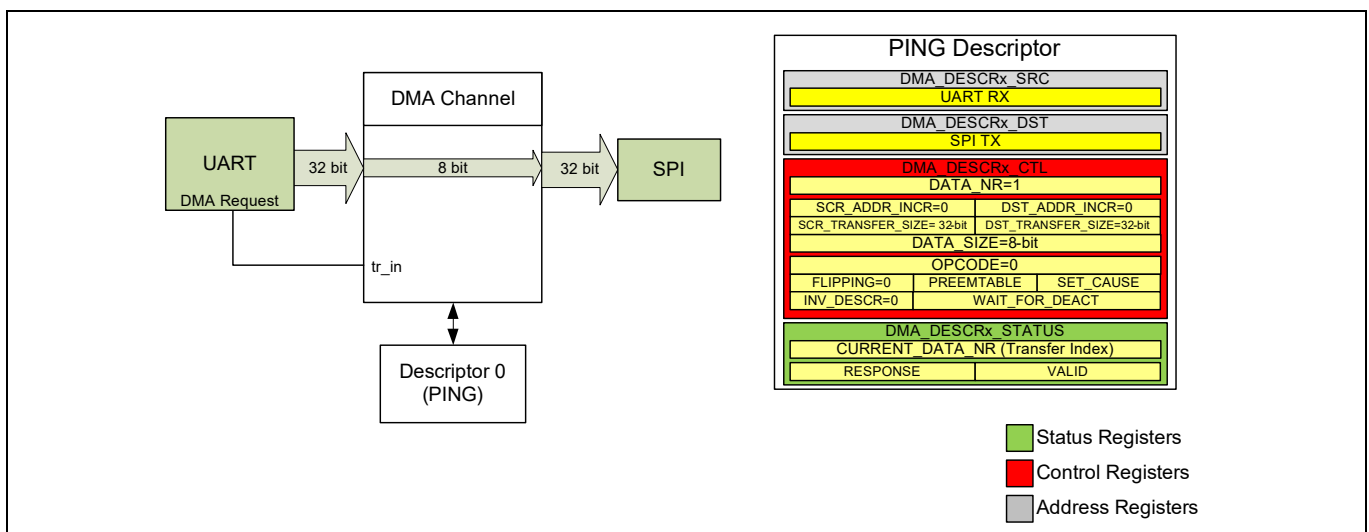

Figure 6-5. OPCODE 0: Simple DMA Transfer from Peripheral to Peripheral
Figure 6-5 shows a typical use case of this transfer. Here a UART receive (RX) register is the source and the destination is a peripheral register such as an SPI transmit (TX) register. The trigger is from the DMA request signal of the UART. When the trigger is received, the transfer engine will load data from the UART RX register and store the lower eight bits to the SPI TX register. Successive triggers will result in the same behavior because the descriptor will be rerun.